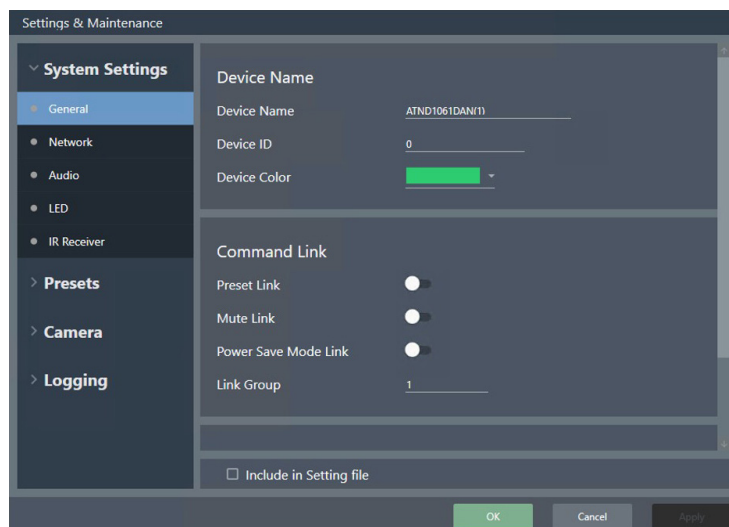

Figure 11. Settings & Maintenance General Panel
2. Click the gear icon in the right panel (see figure 10, ②). The Settings & Maintenance screen opens (see figure 11).
- For switch settings, click the switch. Switches turn blue (ON) and no color (OFF).